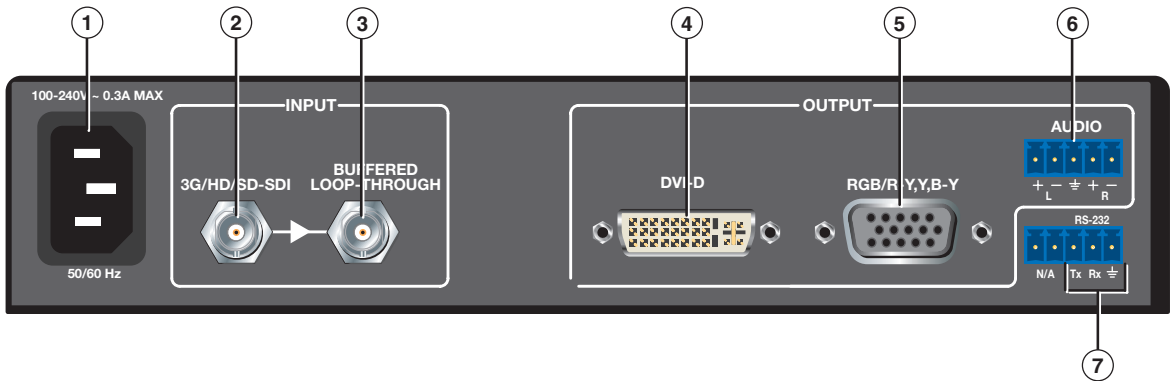

Figure 2. DVC 501 SD Rear Panel
3. **Connect the input.** Connect an SDI, HD-SDI, or 3G-SDI source to the 3G/HD/SD-SDI Input BNC connector (② in figure 2 on the next page).
4. (Optional) **Connect a monitor or recording device.** Attach a monitor or a video recording device to the Buffered Loop-through Input BNC connector (③ in figure 2).
- **DVD-D** — Digital video (④ in figure 2)
- **RGB/R-Y,Y,B-Y** — Analog RGB (RGBHV, RGBS, and RGsB) or YUV component video (⑤ in figure 2)
6. **Connect the audio output.** Connect an amplifier or other audio output device to the 5-pole captive screw audio connector (⑥ in figure 2).
- **RS-232 port (rear panel)** — Serial RS-232 connection (⑦ in figure 2)